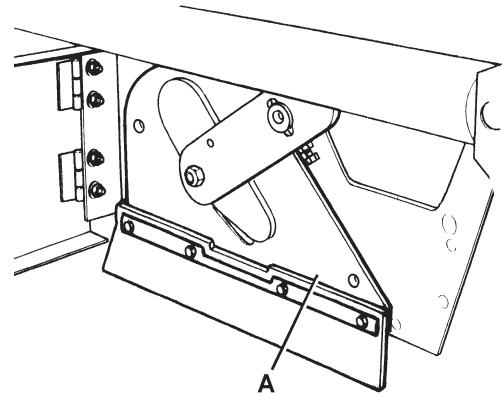
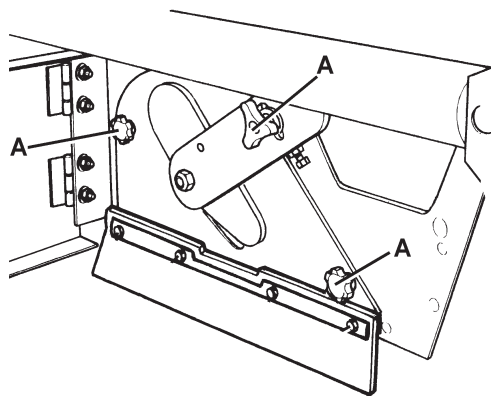

Figure 6
Figure 5
1. Drive the machine on a level floor and engage the parking brake with the pedal (82) and the lever (75).
2. Turn the ignition key (69) to "0" and remove it.
3. Release the fastener (8) and open the right door (7).
4. Unscrew and remove the knobs (A, Fig. 5).
5. Remove the main broom compartment cover (A, Fig. 6).
10. Install the main broom compartment cover (A, Fig. 6) and tighten the knobs (A, Fig. 5).
11. Close the right door (7) and engage the fastener (8).